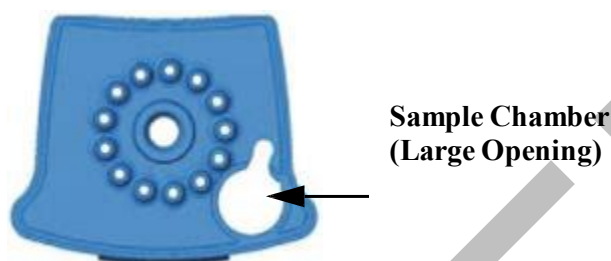

Figure 27. Xpert Xpress SARS-CoV-2 Cartridge (Top View)
15. To transfer the external control to the cartridge, squeeze the top bulb of the transfer pipette **completely** again to empty the contents of the pipette into the large opening (Sample Chamber) of the cartridge shown in Figure 27. Dispose of the used pipette.